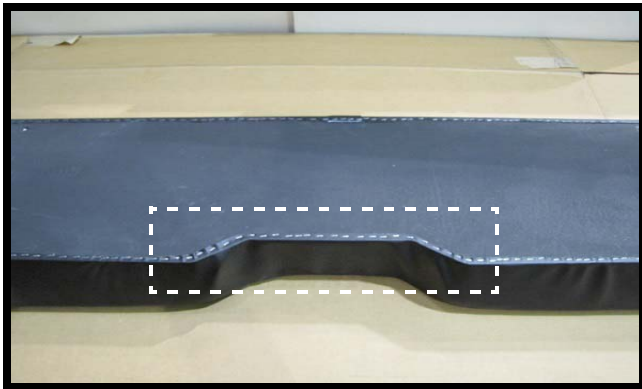

FIGURE 3
3. On a clean flat work surface, lay the bottom seat bench (757-04068), vinyl side down on top of the piece of cardboard. See Figure 3
4. The staples need to be removed inside the area outlined in Figure 3.